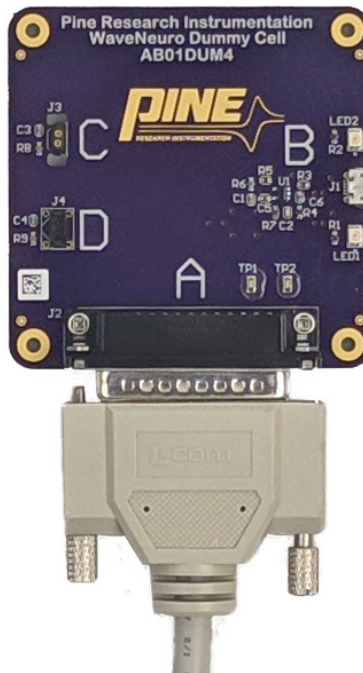

Figure 5-16: Connection of DB-25 Extension Cable to Dummy Cell A Connector
2. Connect the DB-25 extension cable into the HEADSTAGE 0 connector on the WaveNeuro 4 front panel. Place the other end of the cable into a Faraday cage. Connect the DB-25 extension cable to the Dummy Cell A (see: Figure 5-16).